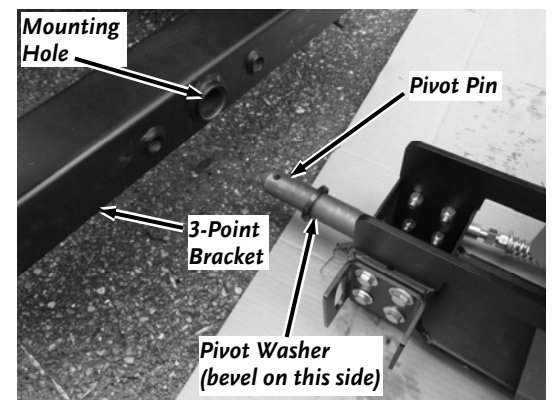

Figure 4
2. Slide the Pivot Pin into the Mounting Hole of the 3-Point Bracket as far as it will go (**Figure 4**).